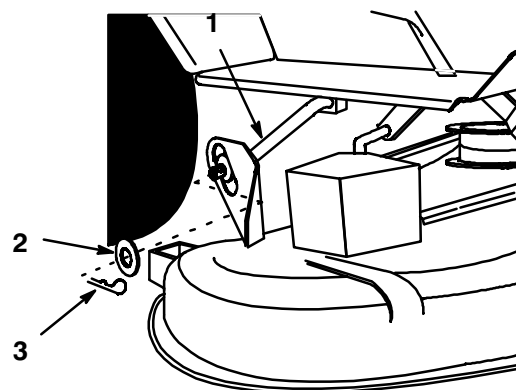

Figure 4
5. Place rear guide bushings, first left side then right, onto lift arms then slide deck left into position (Fig. 4).
6. Secure deck to rear lift arms with washers and (2) 3-3/8" hairpin cotters (Fig. 4).